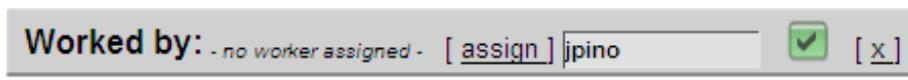

Figure 15.6-6. Worker Assignment
- 10 To assign or change worker to the **Worked by** field (Figure 15.6-6, Worker Assignment) on the Intervention For Request <ID> page perform one of the following: